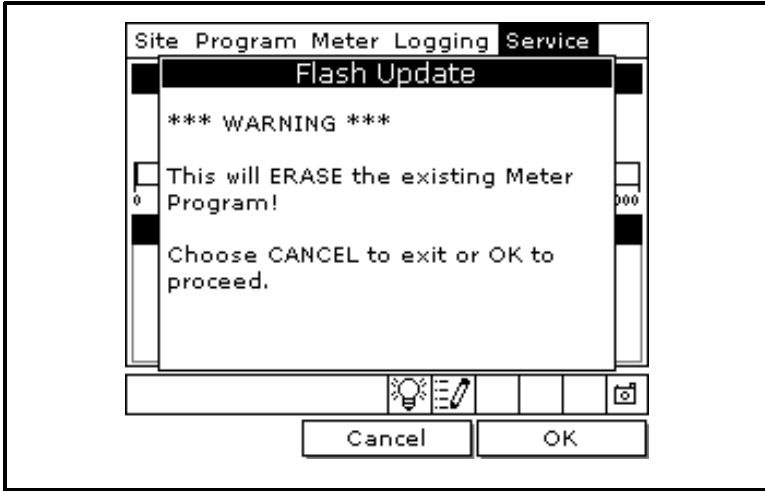

Figure 8-9: The Flash Update Window
3. Use the arrow keys to scroll to **Flash Update** and press [ENTER]. The screen appears similar to Figure 8-9 on the next page.
4. Press [F3] (OK) to confirm that you wish to erase the program.
5. The meter asks for confirmation. Press [F3] (OK) to continue with the update.